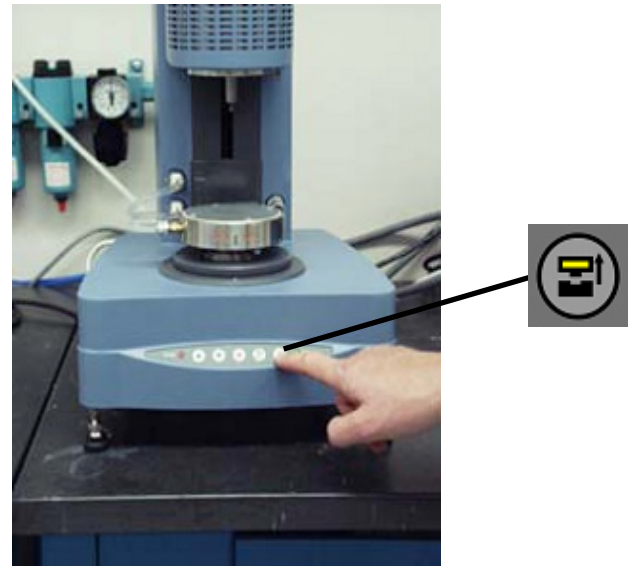

Figure 5.10
2. Press the '**Release button**' on the control panel as seen in Figure 5.10. A continuous green light indicates that the attachment can be fitted.